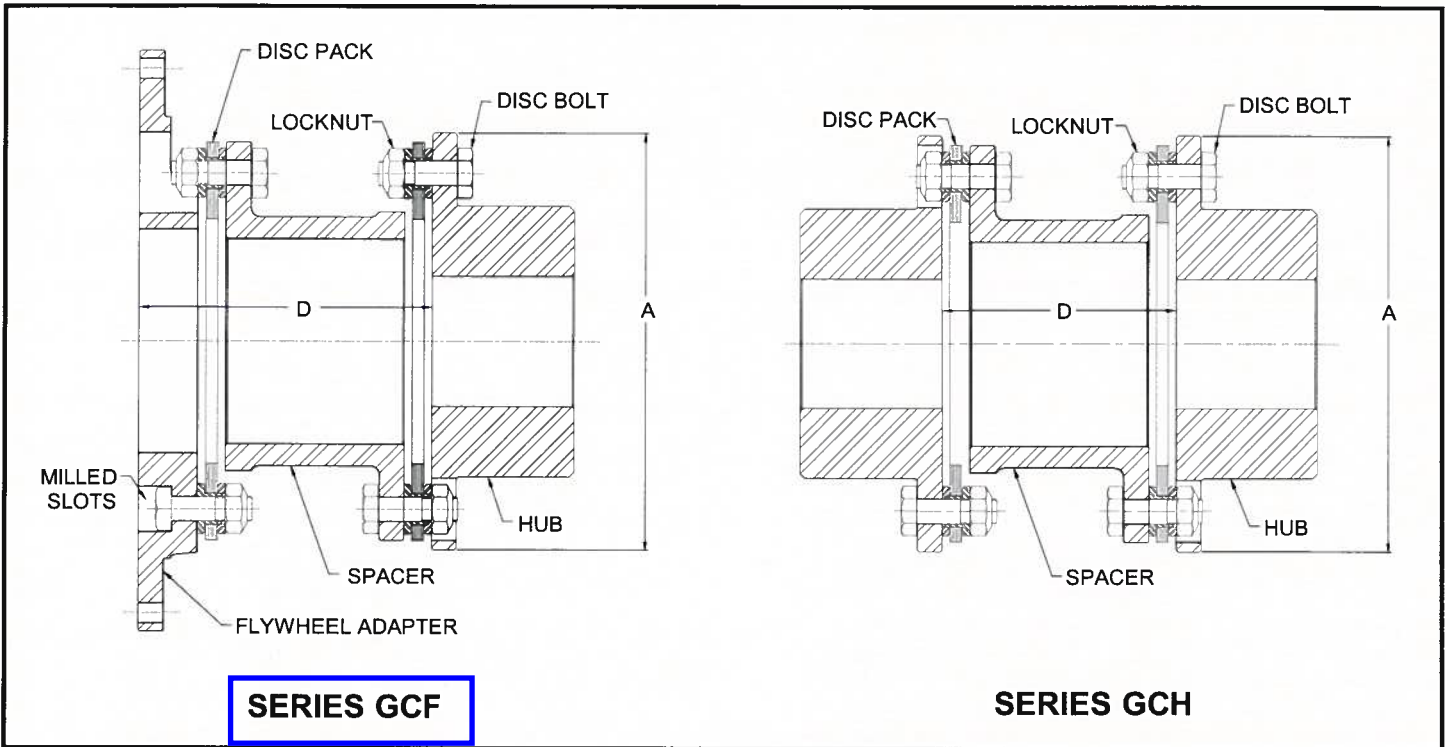

FIG. 1: COUPLING NOMENCLATURE
11. Install a disc pack on adapter or first hub. Review figure 1 to confirm proper bolt orientation. For couplings with two hubs, install the four disc bolts which connect the pack to the first hub. Coat all bolt threads and nut faces with anti-sieze thread compound.
12. Bring spacer into position and install the other four bolts and nuts at the first end, oriented as shown in Figure 1. Continue to support spacer to prevent damage to the disc pack.
13. Install second disc pack and all remaining bolts and nuts as shown in Figure 1. Read the following sections before tightening bolts.